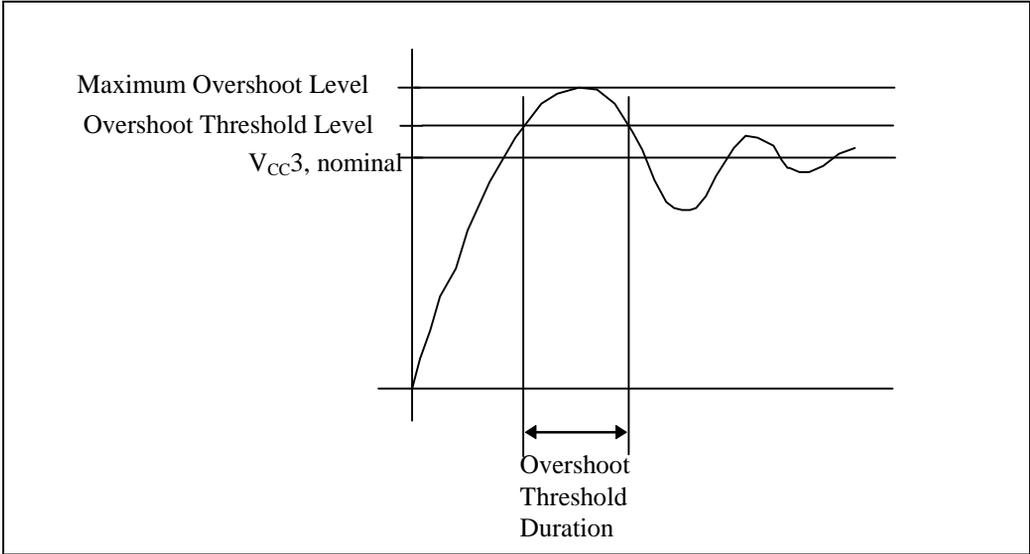

Figure 17-4. Maximum Overshoot Level, Overshoot Threshold Level, and Overshoot Threshold Duration
These overshoot and undershoot specifications are illustrated graphically in Figure 17-4 to Figure 17-7.
2. See Figure 17-4 and Figure 17-5.